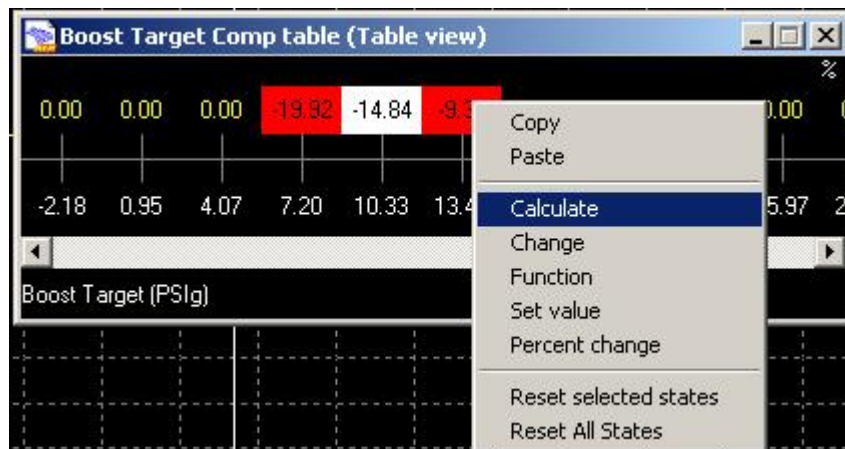

Fig. 6 - Calculating Intermediate Cells
16. Put the **Boost Target Comp** table into *Table View*, select the 2 load points that were tuned and all cells in-between, and then right click and click Calculate. (Fig. 6) This will interpolate all the values in-between the tuned values to a linear curve.